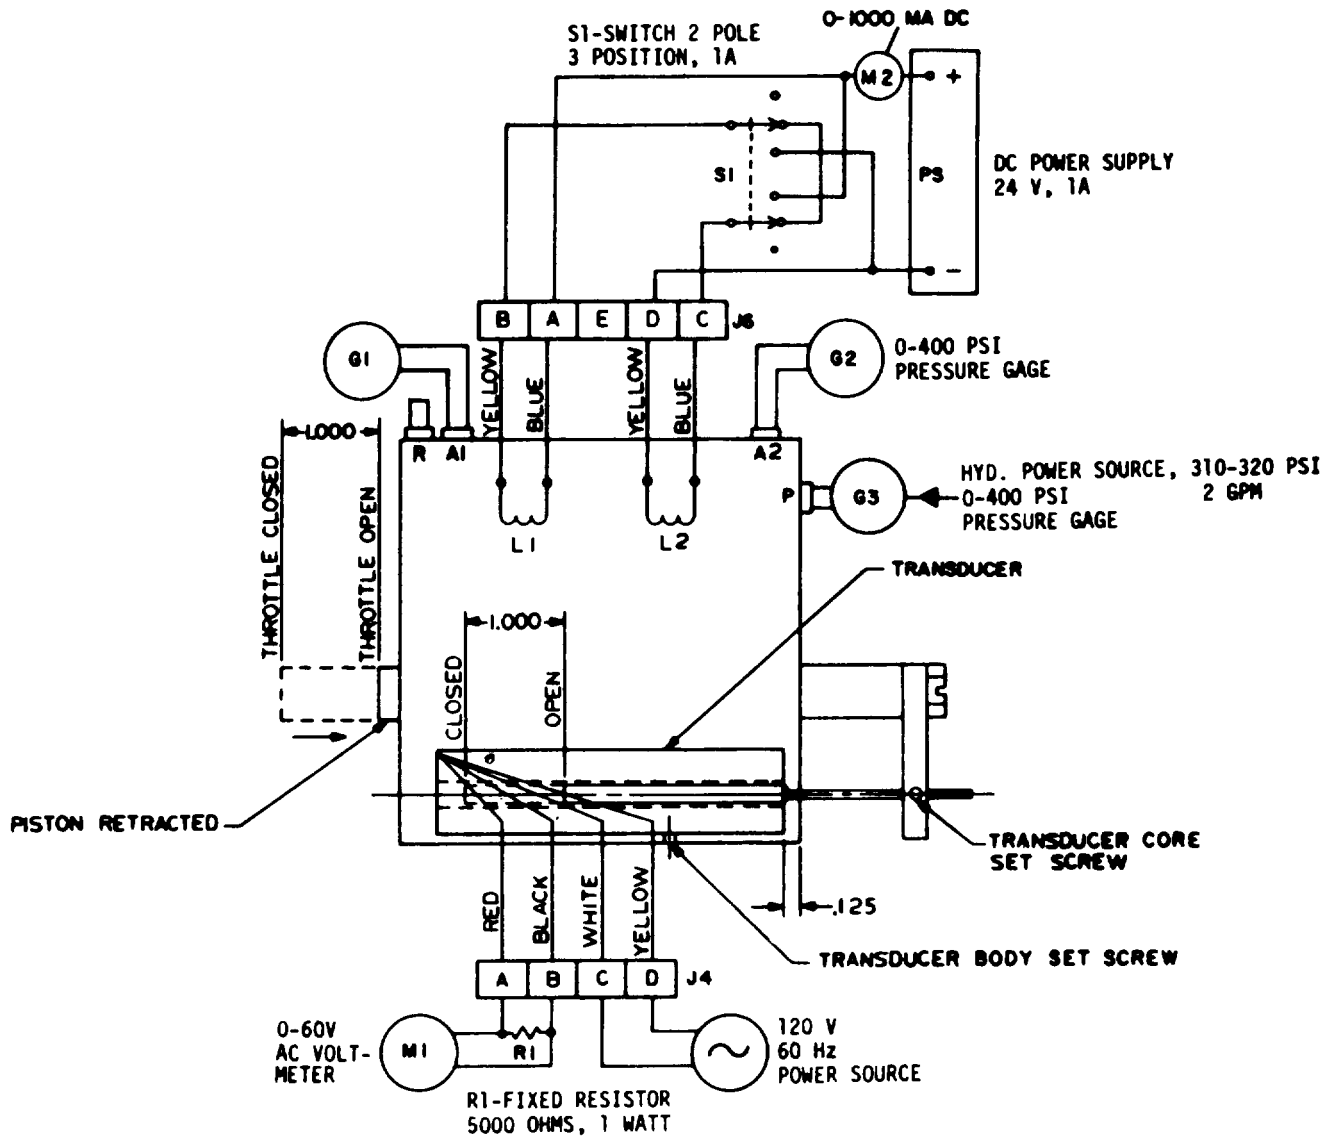

Figure 3-40. Hydraulic Actuator Tests, Schematic Diagram
- (1) Actuator Valve and Piston Test.
- (a) See figure 3-40 to perform the valve and piston test.
- (e) With hydraulic power but no electric power applied, adjust the valve with Allen set screw to yield 200 psi \pm 10 psi at A1 port (gage G1) and 150 psi \pm 10 psi at A2 port (gage G2). (See figure 3-40).
- (h) Set switch S1 to connect power (PS) to coil L2 and apply 700 ma \pm 40 ma. Pressure at A1 port (gage G1) shall be 310 to 400 psi. pressure at A2 port (gage G2) shall be 0 to 20 psi.
- (i) Set switch S1 to connect power (PS) to coil L1 and apply 700 ma \pm 40 ma. Pressure at A1 port (gage G1) shall be 0 to 40 psi and pressure at A2 port (gage G2) shall be 310 to 400 psi.
- (2) Throttle Position Transducer Test.
- (a) With voltmeter (M1), resistor (R1) and 120 \pm 1%, 60 Hz) power source connected as shown in figure 3-40, move piston to fully open throttle position.